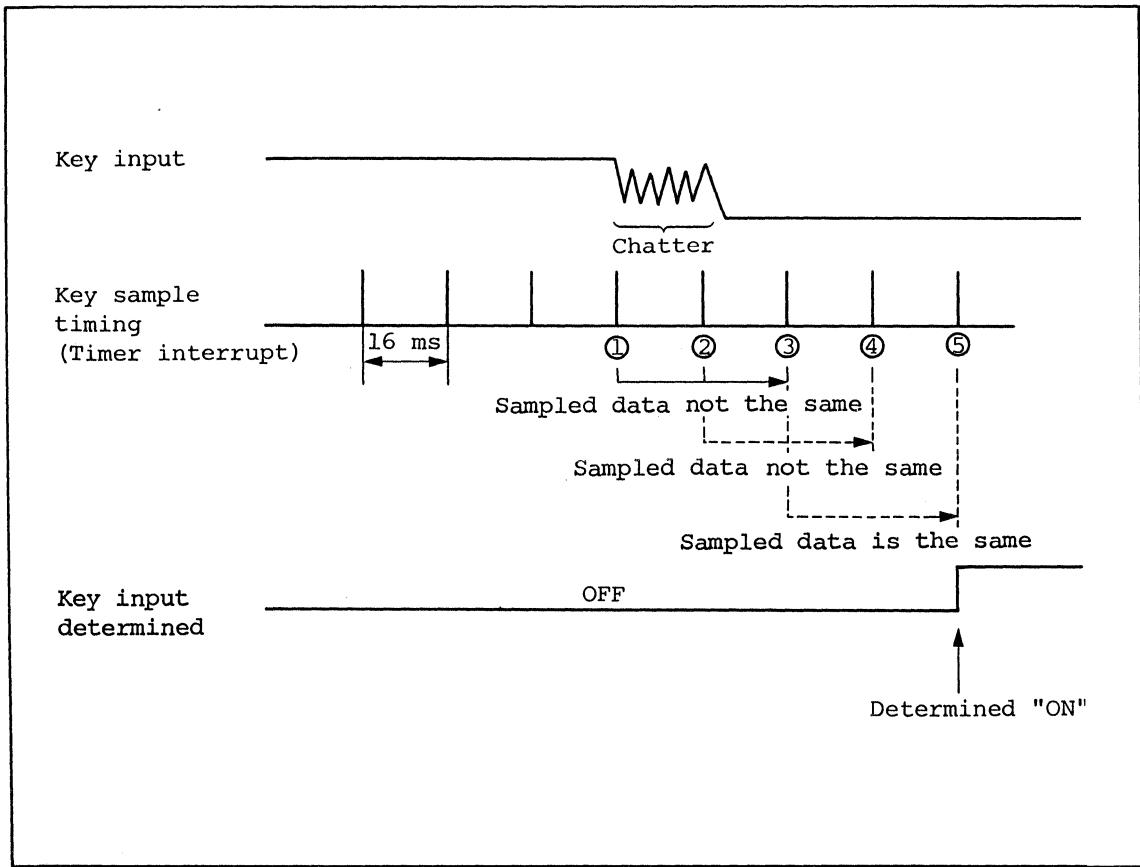

Fig. 2.25 Chatter Prevention Timing
Timing chart for preventing chatter is shown in Fig. 2.25.
In Fig. 2.25, since data sampled at ① ~ ③, ② ~ ④ are not the same three times consecutively, the program regards them as chatter and ignores them. Data sampled at ③ ~ ⑤, however, are the same and is thus determined as valid key input.